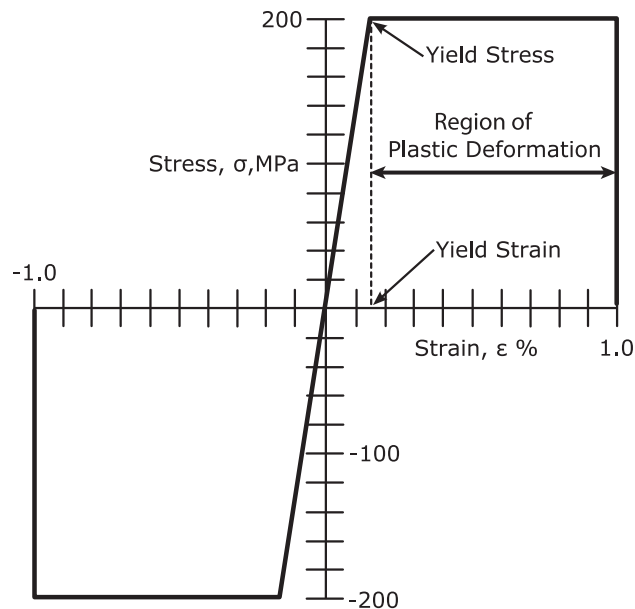

FIGURE 13.11
The stress-strain diagram of an idealized steel looks like Fig. 13.11. It also defines some new terms: **yield stress** (or **yield strength**), **yield strain**, and **plastic deformation**.
The **yield stress** is the maximum stress at the limit of elastic behavior in which the specimen returns to its initial length when the load is removed. In the case shown in Fig. 13.11, it is 200 MPa. The **yield strain** is the strain corresponding to the elastic yield stress. But plastic deformation causes a *permanent* change in the properties of the steel when it passes beyond its elastic limits. Stretching here is called **plastic deformation**. For this idealized steel, compressive properties mirror the tensile ones.
Compare the yield stress in Fig. 13.11 of 200 MPa to the theoretical failure value for iron calculated earlier at 80 GPa. In other words, our sample of steel is failing at a stress about 200 MPa or a factor of about 400 lower than its theoretical maximum. Presumably this failure is initiated at inclusions or at crystal boundaries rather than by pulling apart the rows of atoms of iron in the steel.
The elastic modulus E defined in Eq. (13.3) is just the slope of the stress-strain curve. In Fig. 13.11 it is $E = 200 \text{ MPa}/0.0015 = 130 \text{ GPa}$.
In Fig. 13.11, the stress-strain curve for strains greater than the yield strain is shown as a horizontal line parallel to the strain axis. In actual stress-strain diagrams, the shape of that portion of the curve is more complicated. This region is called the **plastic** region, and when it is described with a horizontal line it is called a **perfectly plastic** region. This overall model is called **perfectly elastic, perfectly plastic**. It's a useful simplification of how real materials behave.
Given the stress-strain diagram for steel in Fig. 13.11, determine (1) its modulus under compression, (2) its yield strength under tension, (3) its toughness under tension to yield, and (4) its toughness under tension to 1.0% strain.
Know: Stress-strain curve in Fig. 13.11; toughness is area beneath the stress-strain curve.
Can the car's bumper from Example 13.1 absorb the TKE of the 2.50 mph (1.12 m/s) collision assumed there? Or will it plastically deform? What if it is traveling at 5.00 mph (2.24 m/s)? Also, what is the weight of the bumper if its density is 7850 kg/m³? Assume the mechanical behavior is described by the stress-strain diagram of Fig. 13.11.